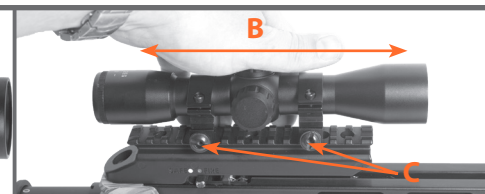

Fig. 10
1. Attach the Scope mount rings onto the scope using the scope mount screws (4) (Fig. 10 A).
2. Position your scope by moving it forward or backward until the proper eye relief is found. This is typically three or four inches from your eye to the eyepiece when you are holding the crossbow in a shooting position. (Fig. 10 B)
4. Align the screws with the grooves on the rail, and tighten screw heads with a screw driver (not included). (Fig. 10 C).